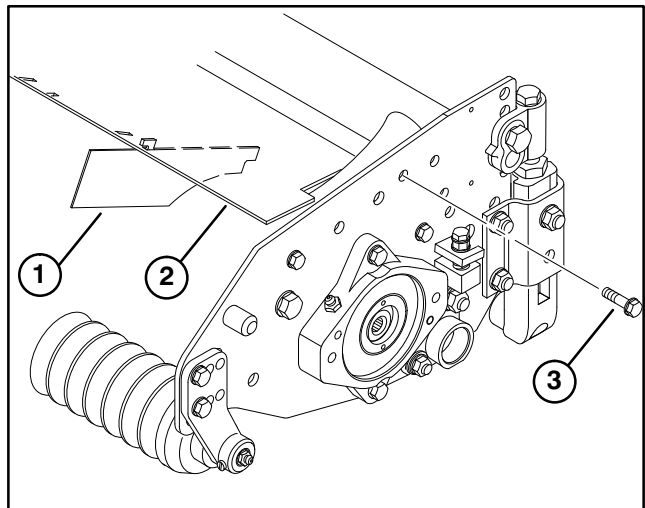

Figure 12
3. To change grass shield angle, loosen flange head capscrew (Fig. 12) securing shield to left side plate, move shield to desired angle and tighten screw.